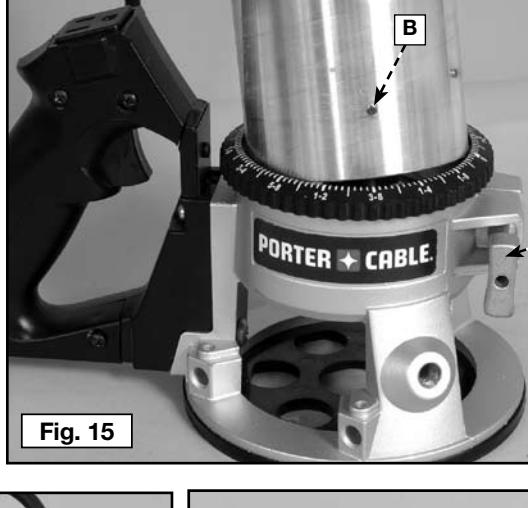
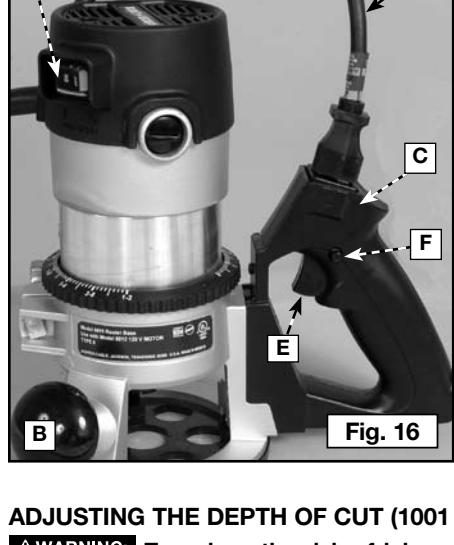

Fig. 15
Fig. 16
1. Loosen the clamp screw (A) Fig. 15 to set the power unit in the base unit.
2. Insert the motor unit into the base aligning the lower pin (B) with the groove in the base.
3. Rotate the motor unit into the base clockwise until the motor switch (A) Fig. 16 is directly above the knob handle (B).
4. Connect the motor unit cord to the outlet in handle (C) Fig. 16.
Check to see that the motor unit power cord (D) Fig. 16 is plugged into the handle, and that the switch (A) on the motor is set to the "ON" position. The starting and stopping of the motor is then controlled by pressing and releasing the trigger switch (E) Fig. 16 in the handle of the base.